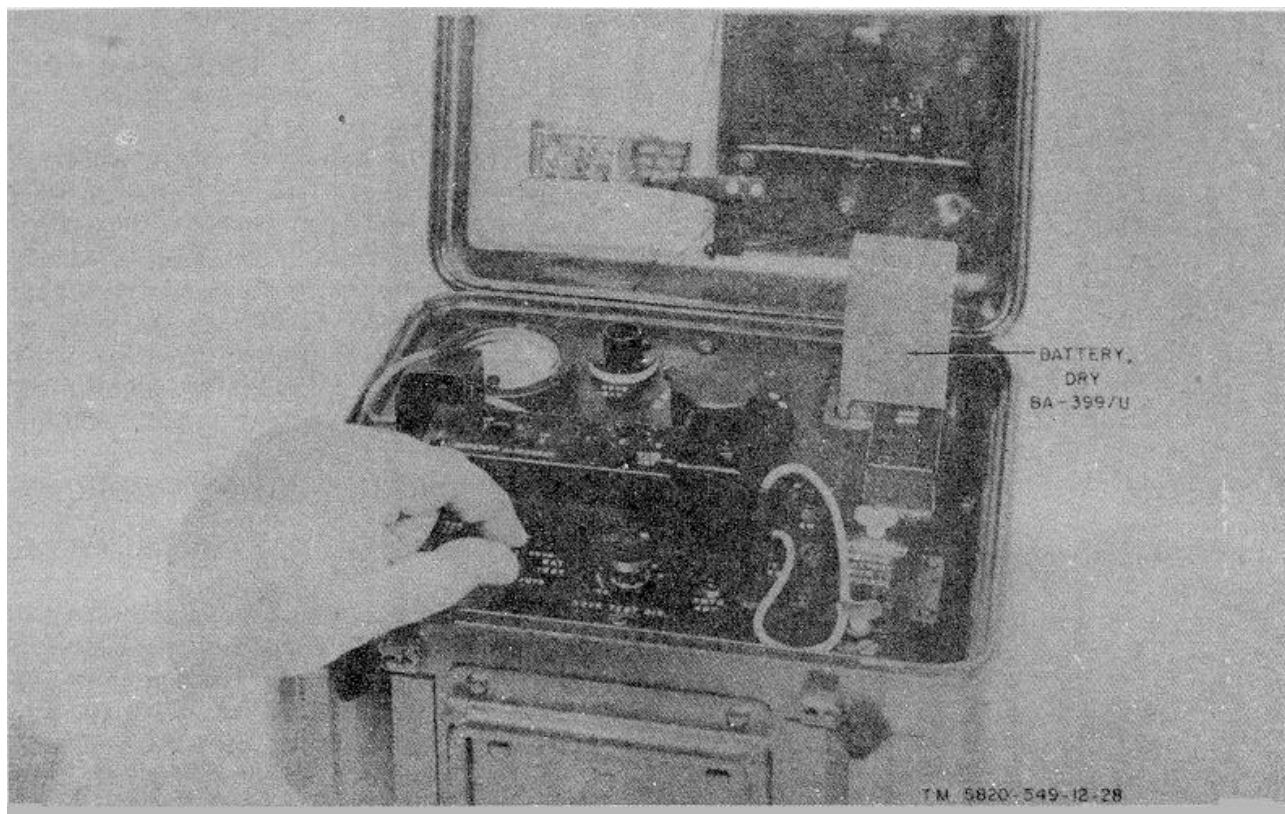

Figure 3-3. Indicator, channel alignment ID-1189/PR, AN/PRT-4 battery BA-399/U.
b. *Testing ANIPRT-4 Batter BA-4991U (fig. 3-3).*
- (1) Remove the battery from the AN/PRT4 (TM 11-5820-459-12) and place the battery in the XMTR BAT. receptacle.
- (2) Turn the FUNCTION switch to OFF.
- (3) Push the BAT. TEST switch to XMTR and read the meter. If the meter indicates in the green portion of the BAT TEST scale, battery is usable. If the meter indicates in the yellow portion of the BAT TEST scale, battery has a very limited life. If the meter indicates in the red portion of the BAT TEST scale, battery must be replaced, and a new battery should be obtained and tested.